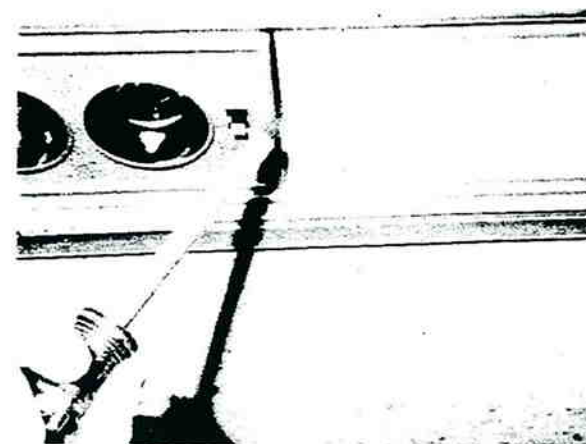

Figure 3-43. Servicing In-Station Lights.
- Remove lens by inserting a flat-tip screwdriver behind lens at notch in end of light housing (see figure 3-43).